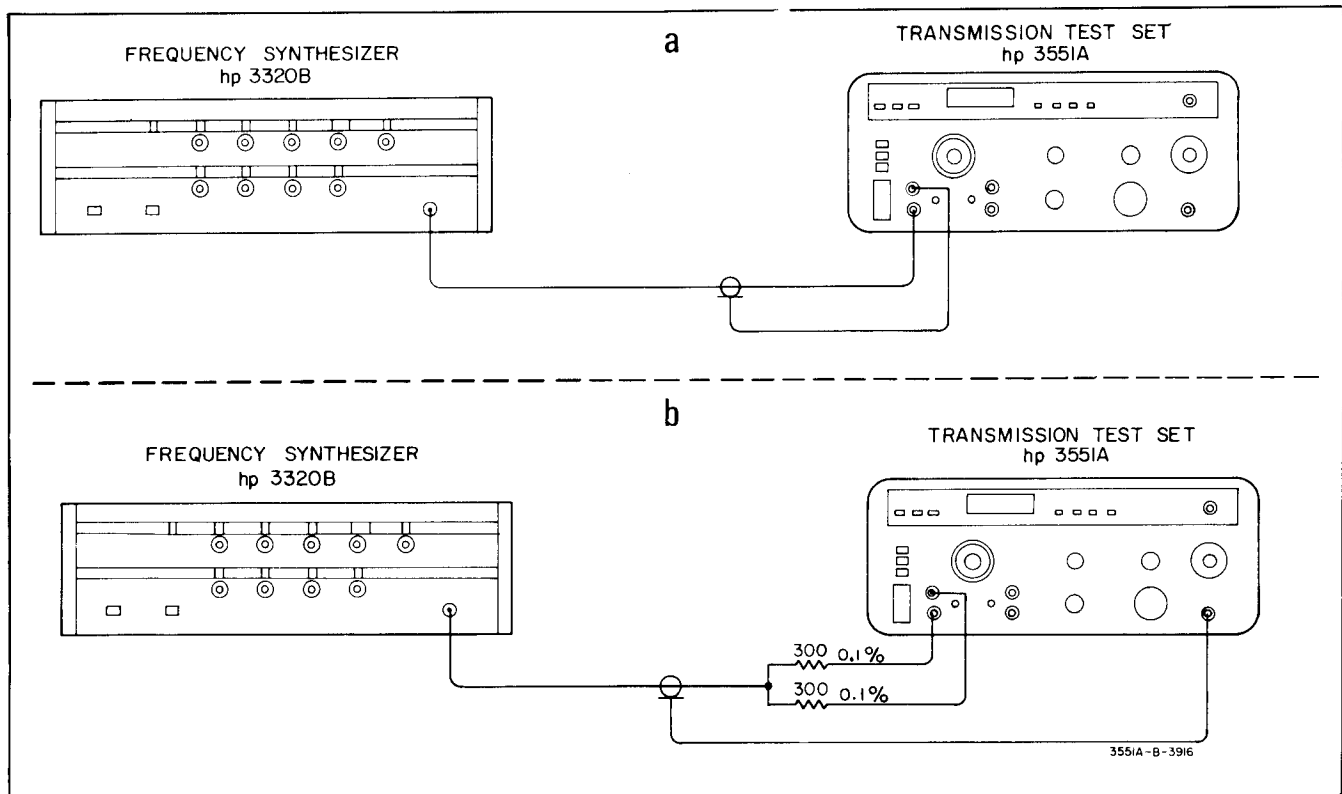

Figure 5-6(a,b). Receiver Balance Test Setup.
- a. Connect the equipment as shown in Figure 5-6(a).
- d. Connect the test equipment as shown in Figure 5-6(b).